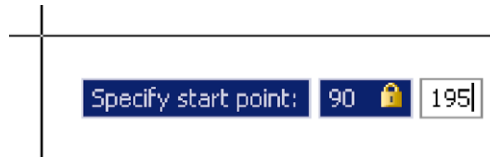

Fig. 3.25 **Dynamic Input** – first example – **Polyline** – the first prompt
2. To start the construction *click* at any point on screen. The prompt for the polyline appears with the coordinates of the selected point showing. *Left-click* to start the drawing (Fig. 3.25).